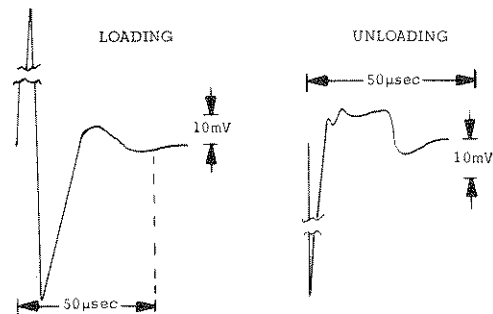

Figure 5-8. Transient Recovery Time, Waveforms
- f. Adjust 25K potentiometer until a stable display is obtained on oscilloscope. Waveform should be within the tolerances shown in Figure 5-8 (output should return to within 10 mv of original value in less than 50 microseconds).